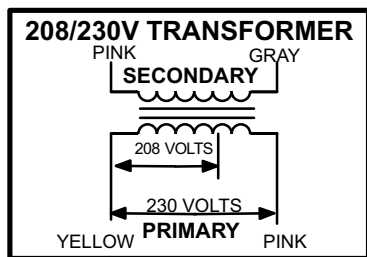

FIGURE 3
age taps as shown in figure 3, while 460 (G) and 575 (J) voltage transformers use a single primary voltage tap.